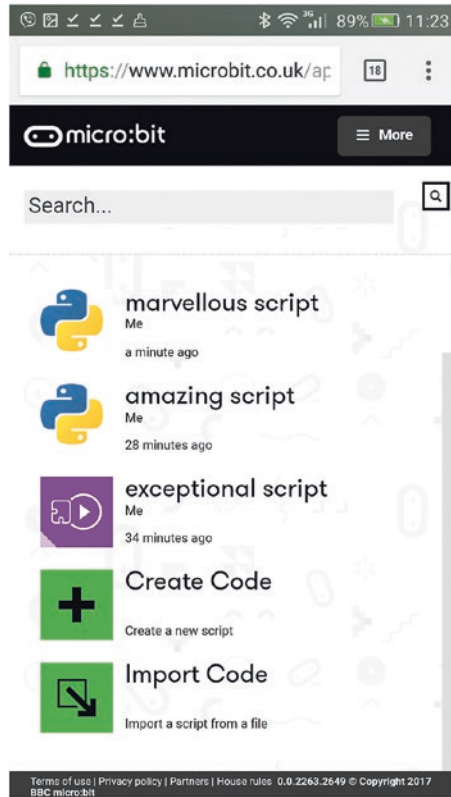

Figure B-10. Tapping the Create Code button
3. Tap the Create Code button (see Figure B-10) from the list to create a new script.